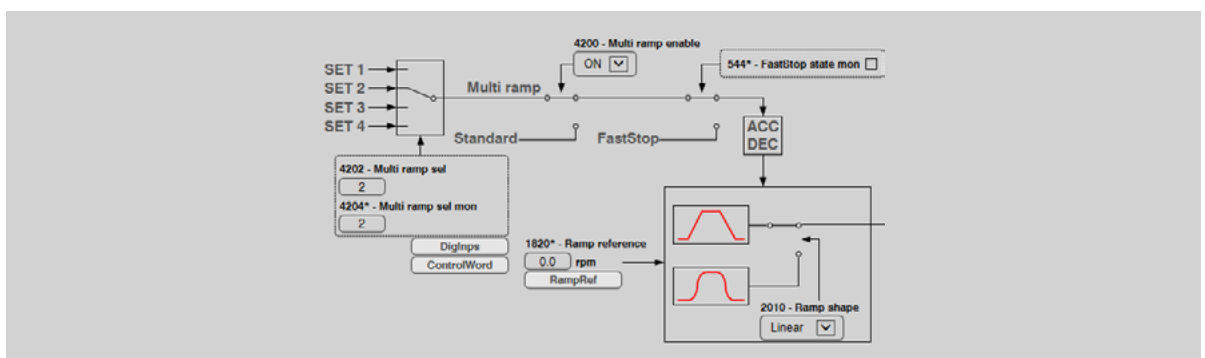

Figure 7-93: Multi-ramp selector management diagram
4400 Droop enable	Enables the Droop function, inserting the Droop out mon output produced by the function in the drive speed reference chain, in addition to the Speed ref 2 mon speed reference (see figure 7-93).